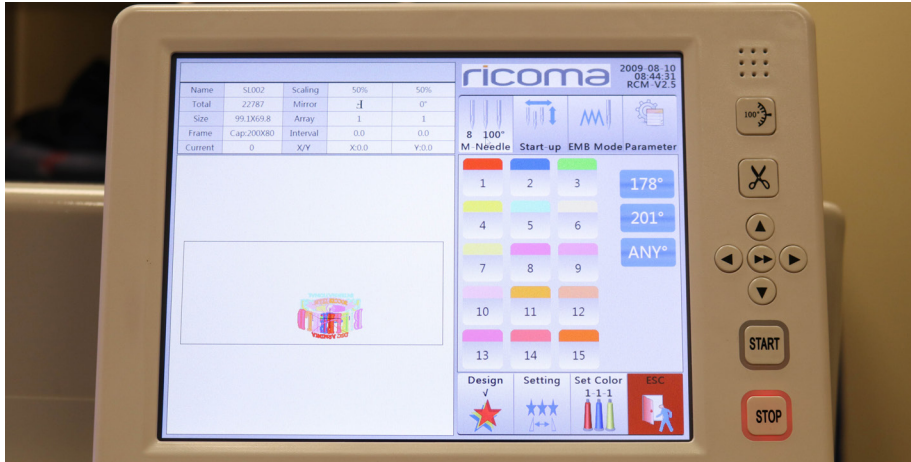

Figure 86
4. Input the speed which you would like the machine to run during that color stop. **See Figure 86.**